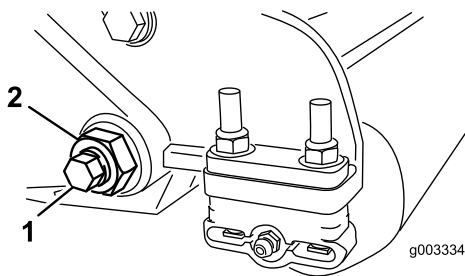

Figure 29
3. On each side of the machine, loosen the locknut securing the bedbar bolt (Figure 29).
4. Remove each bedbar bolt, allowing the bedbar to be pulled downward and removed from the cutting unit (Figure 29).